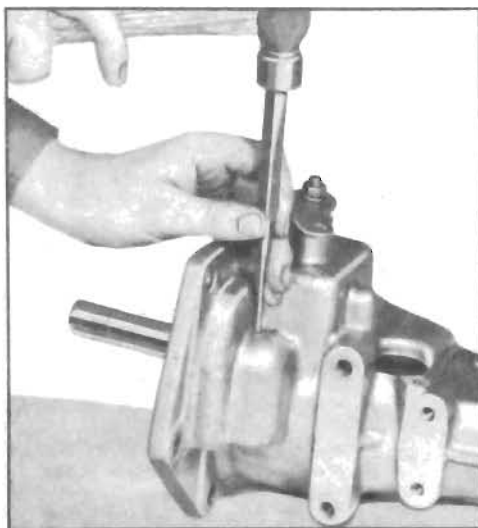

Figure 4-53—Removing Reverse Idler
1. With case extension removed from the transmission, drive the reverse idler shaft lock pin into the boss until it falls into the clearance hole in the shaft. See Figure 4-53.